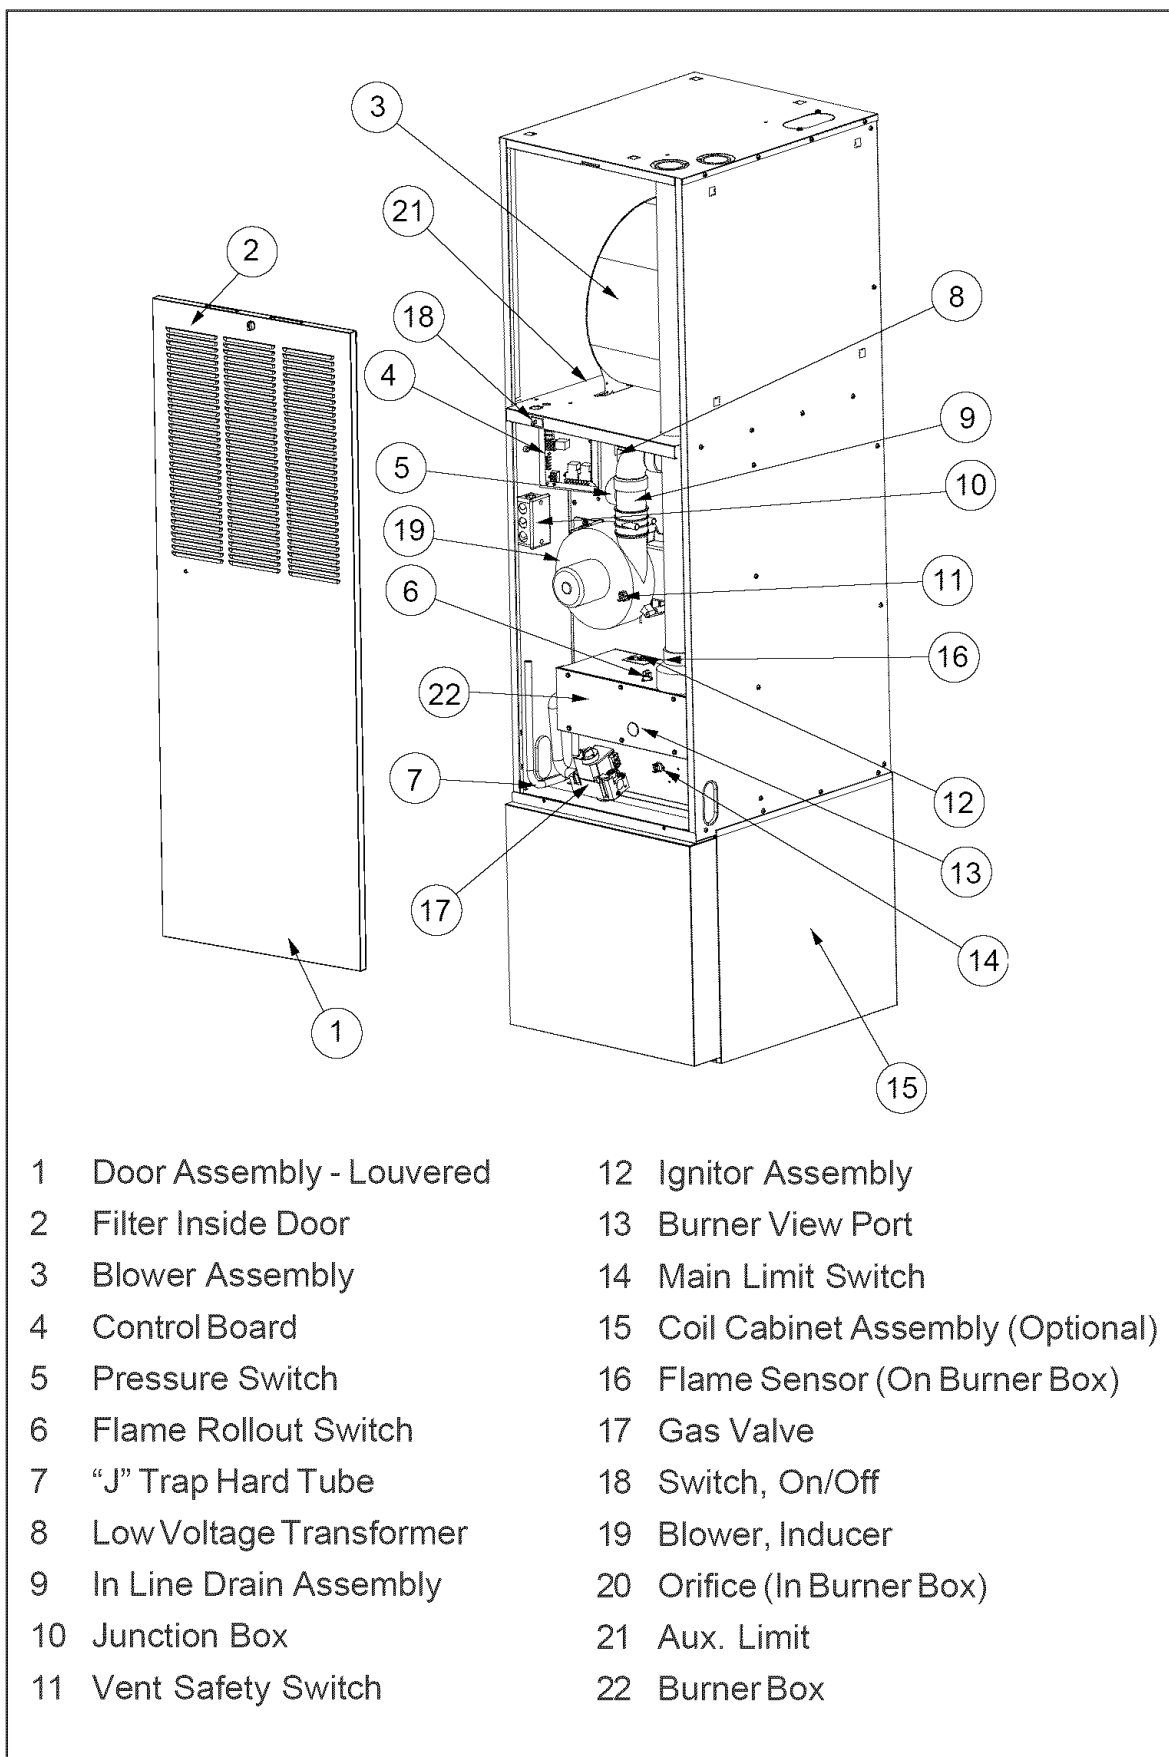

Figure 29. Location of Major Components
Figure 29 shows the location of each of the functional components described below. If any component of the furnace must be replaced, use only factory authorized replacement parts. Contact your distributor for the approved replacement parts.
**Deck Limit Switch (Auxiliary Limit)** – The deck limit protects the furnace filter temperature from overheating when the motor has malfunctioned. If the deck switch opens, the power for the furnace will shut down (see Figure 29).
If the furnace locks out after 5 attempts for ignition, it will try again every hour if a call for heat remains. If the inducer and circulating air blowers are operating, and items 1 through 8 have been checked, press the red reset button on the vent safety switch. (See Figure 29.) If the furnace operates after depressing the reset button, contact a qualified service technician to identify and repair the problem.